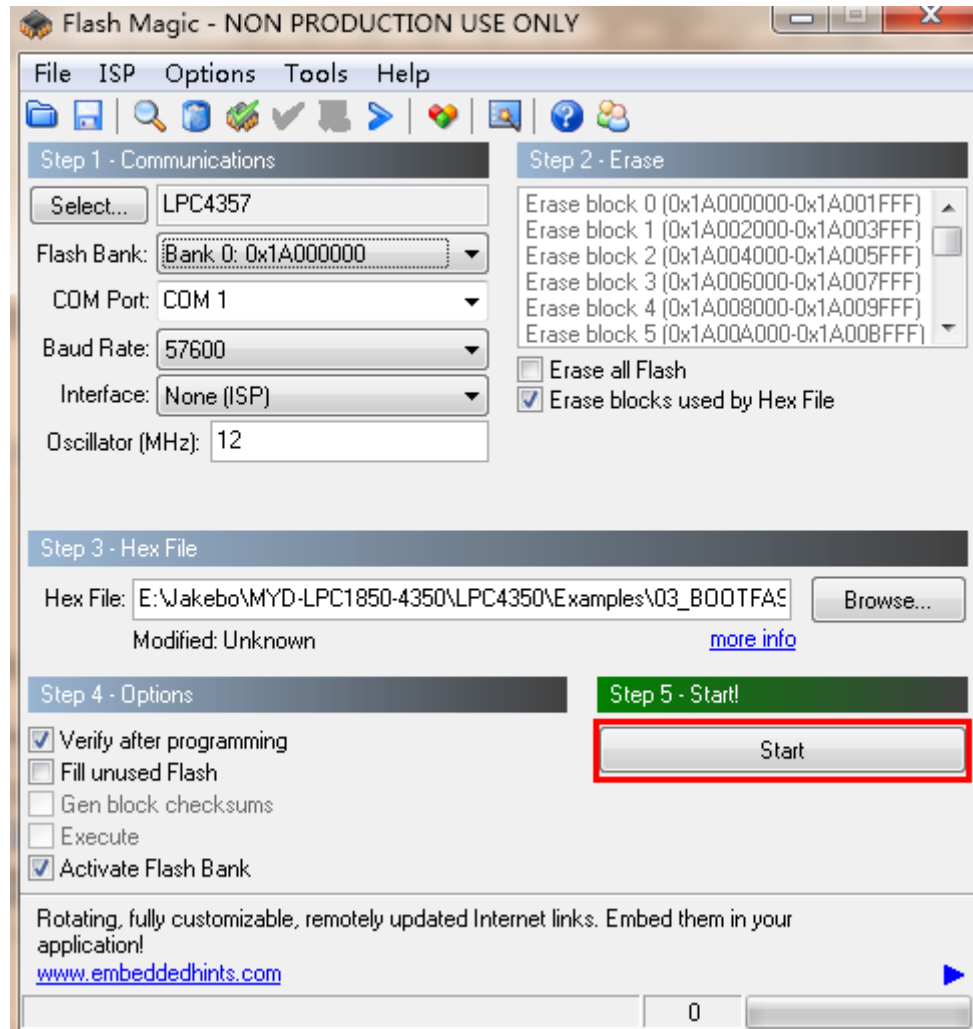

Figure 3-19
(5) Recognize board and click “Start” button, and program will be downloaded to board. Refer to figure 3-19: